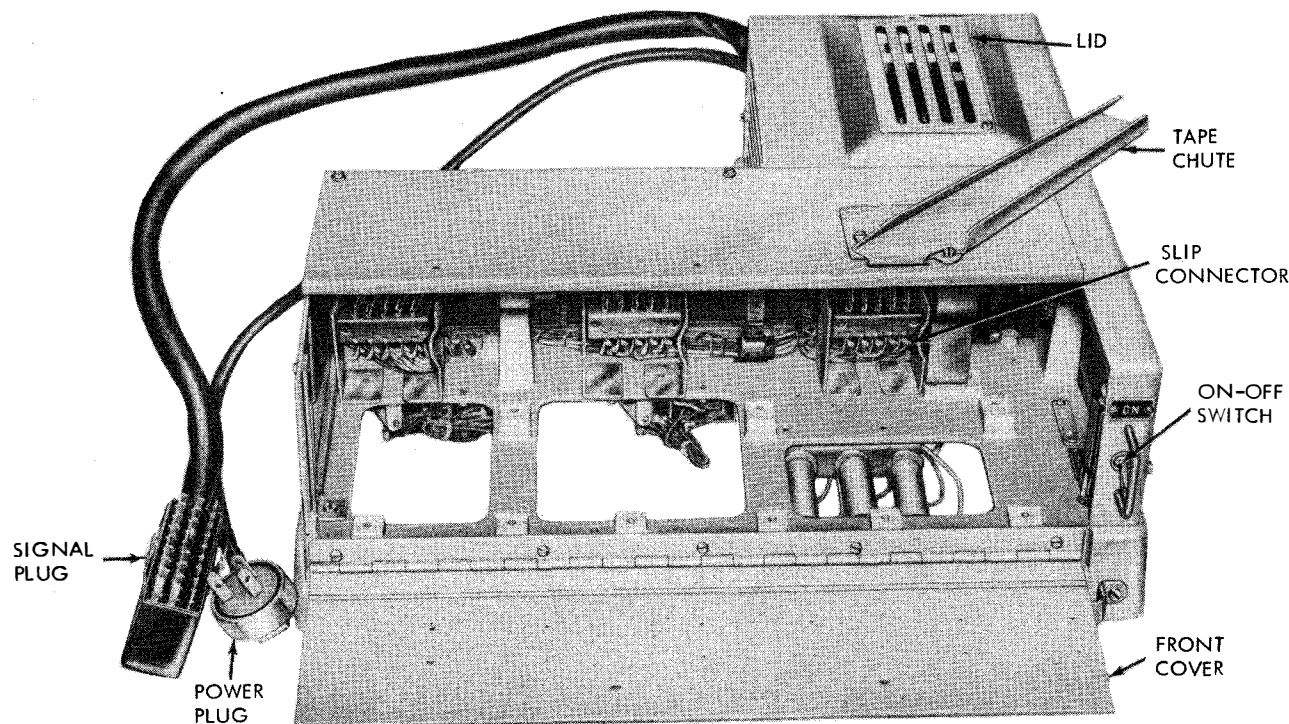

Figure 1-9. Distributor-Transmitter Base (Message), Oblique View
(2) DISTRIBUTOR-TRANSMITTER BASE (MESSAGE).
(a) GENERAL DESCRIPTION.—The base used for the message distributor-transmitter is the same as used for the numbering distributor-transmitter (paragraph (1) above) except that it does not contain tape reels nor individual doors in front of each unit (see figure 1-9). A tape chute is provided on this base to guide the tape into the proper tape bin after it goes through the right hand distributor-transmitter.